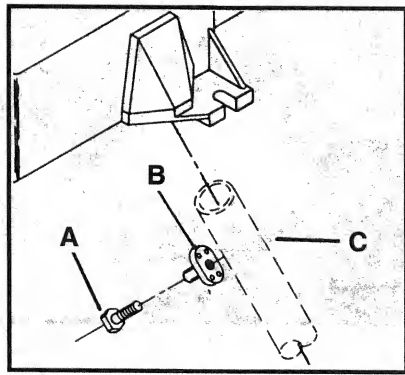

Fig. 5
The stand should be either bolted firmly to a bench, portable table, or equipped with legs for safe operation. Three base lugs, which will accept  $\frac{1}{4}$ " diameter bolts (not furnished), are provided for anchoring the stand to a bench. If preferred, three legs, approximately 34" long, can be made from standard  $\frac{3}{4}$ " pipe. Sockets which will receive these legs are located on the underside of the base. Three  $\frac{1}{4}$ "-20" x  $\frac{3}{4}$ " long bolts (A) and "T" nuts (B) Fig. 5 are furnished for locking the legs in place as follows:
1. From within the sockets, pass the neck of the "T" nut (B) Fig. 5, through the hole in the socket wall.
2. Orient the "T" nut (B) Fig. 5, so that the head is seated in the recess within the sockets.
3. Thread the bolt (A) Fig. 5, into the "T" nut (B) from outside the socket.
4. Insert pipe let (C) Fig. 5, into the socket and tighten bolts securely.